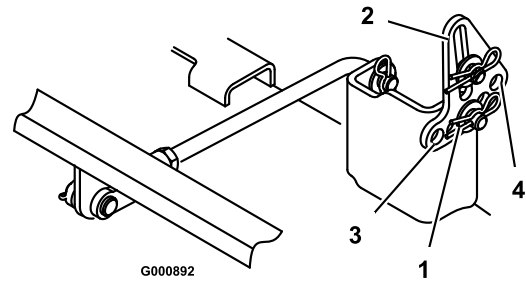

Figure 46
5. Remove the hairpin cotter and washer from the leveling bracket (Figure 46). To level the blade(s), reposition the leveling bracket(s) in a different hole and install the washer and
hairpin cotter. (Figure 46). A front hole lowers the blade height and a rear hole raises its height. Adjust both sides as required.